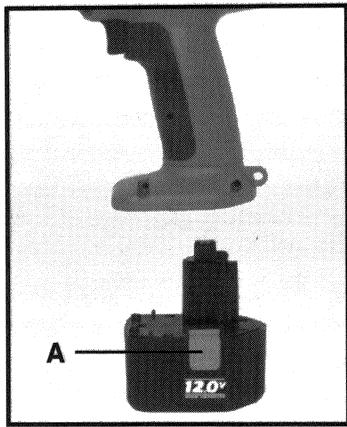

Fig. 6
**TO REMOVE BATTERY PACK:** Depress the two battery release buttons (A) Fig. 6, (one button on each side of battery pack) and pull battery pack out of tool.